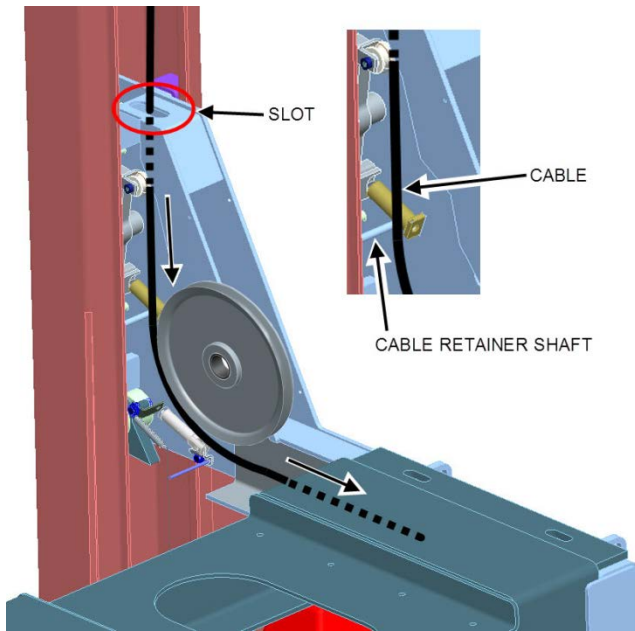
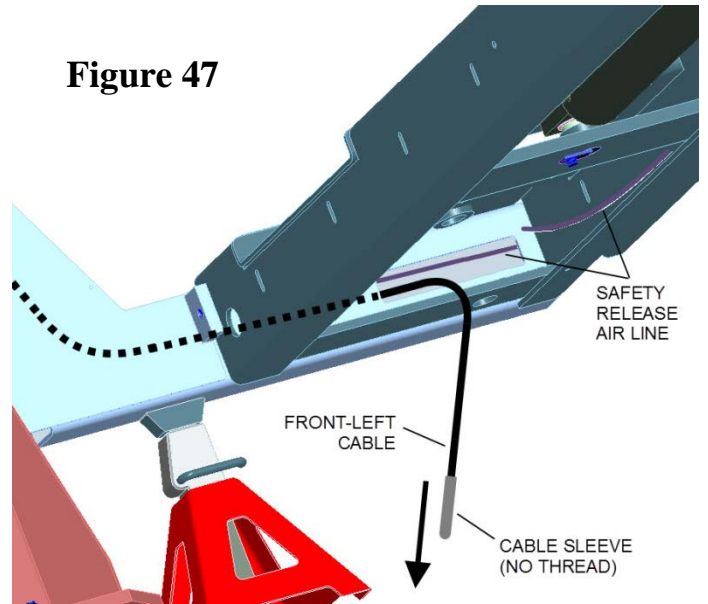
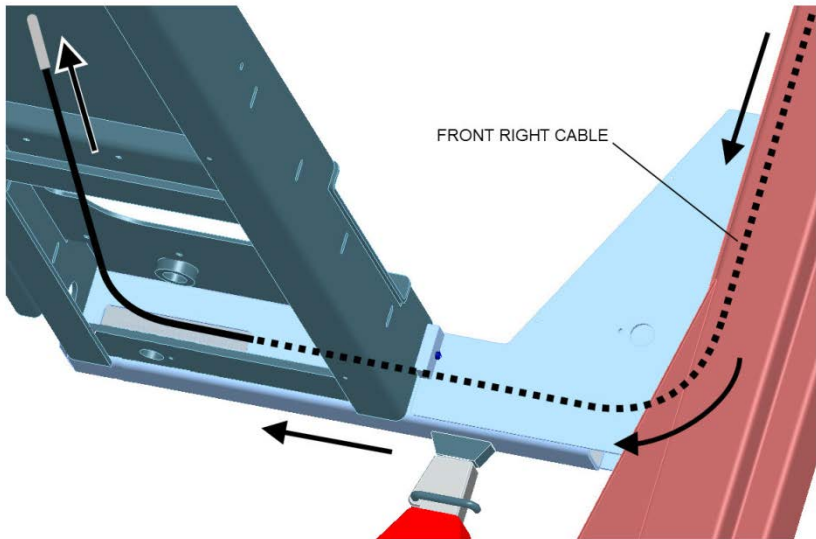

Figure 46
Figure 47
Figure 52
- Continue routing the cable, non-threaded sleeve first, through the slot in the top stiffener plate, through the front left cross-member (**Fig.46**). Pull sleeve end of the cable through the cross-member opening under the front of the left side runway (**Fig.47**)
NOTE: It is very important to route the cable inside a cross-member **IN FRONT** of the cable retainer shaft (see detail in **Fig.46**). Routing the cable behind the cable retainer shaft will not allow the cable to sit in the pulley groove and will cause damage to the lift.
- At this point it is recommended to reach inside the opening of the front left cross-member, retrieve and pull out the end of the safety release air line. Ensure that air line is not entangled in other components or with the cable. Do not pull excessively, as the air line may be pulled out of the safety release cylinder (**Fig.47**).
NOTE: It is very important to route the cable inside a cross-member **IN FRONT** of the cable retainer shaft (see detail in **Fig.46**). Routing the cable behind the cable retainer shaft will not allow the cable to sit in the pulley groove and will cause important damage to the lift.
- Continue routing the cable, non-threaded sleeve first, through the slot (Ref. **Fig.46**) in the top stiffener plate, through the front right cross-member. Pull sleeve end of the cable through the cross-member opening under the front of the right side runway (**Fig.52**).